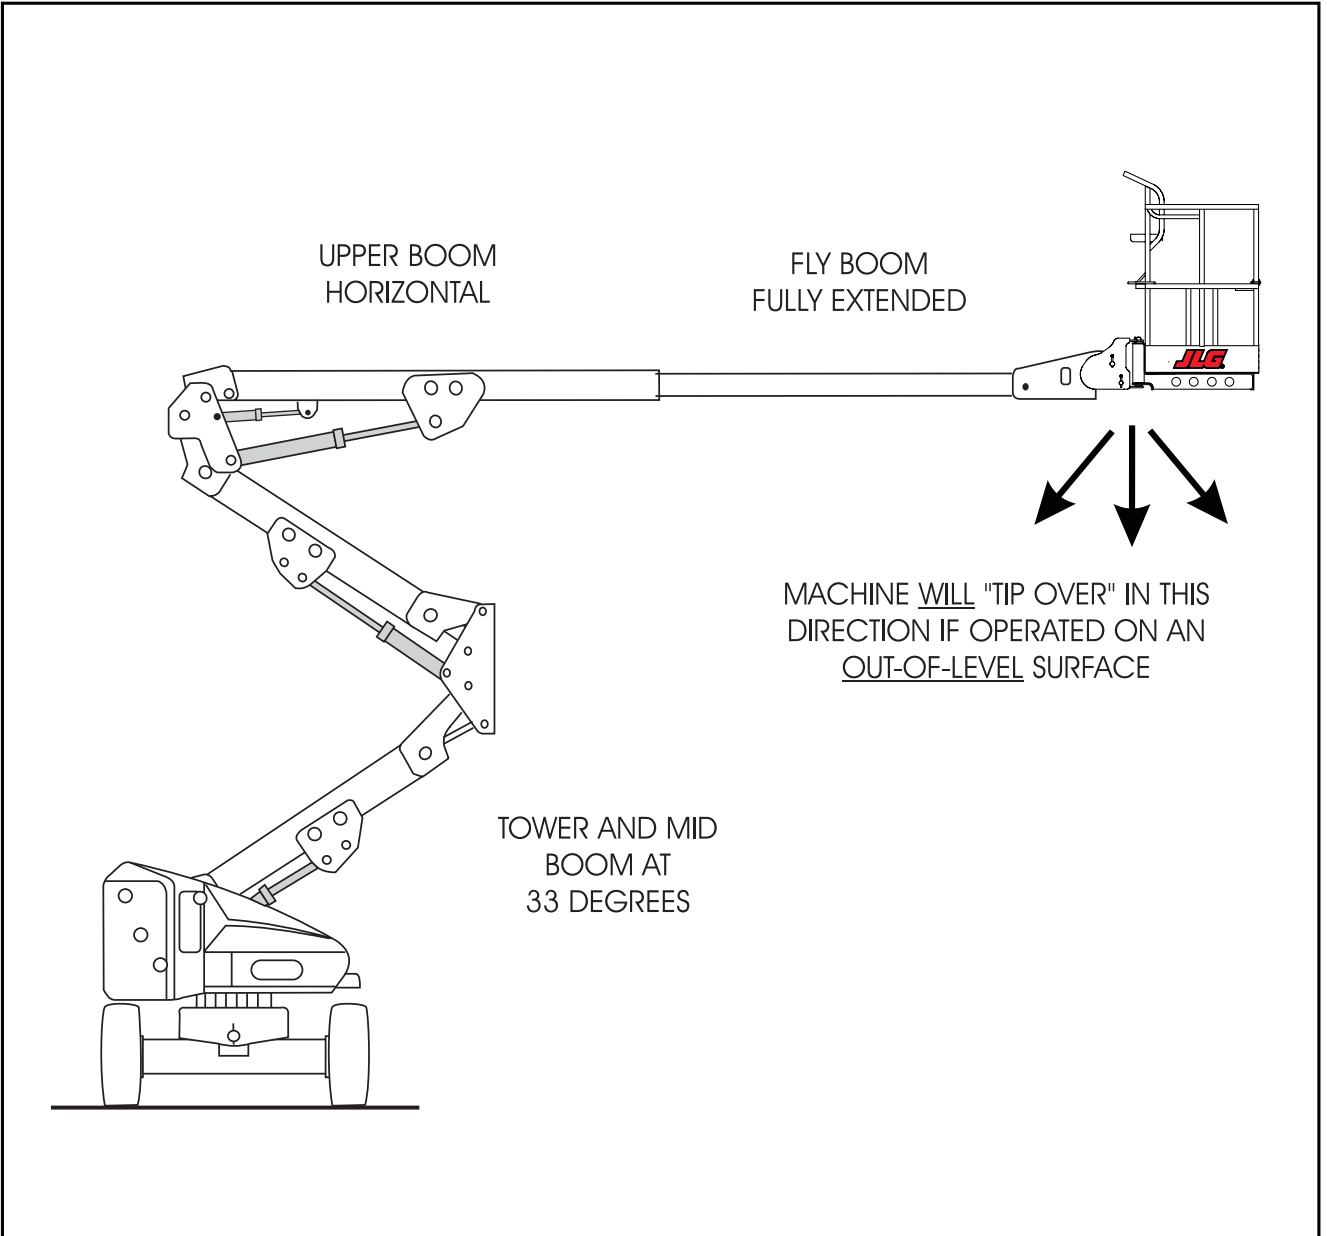
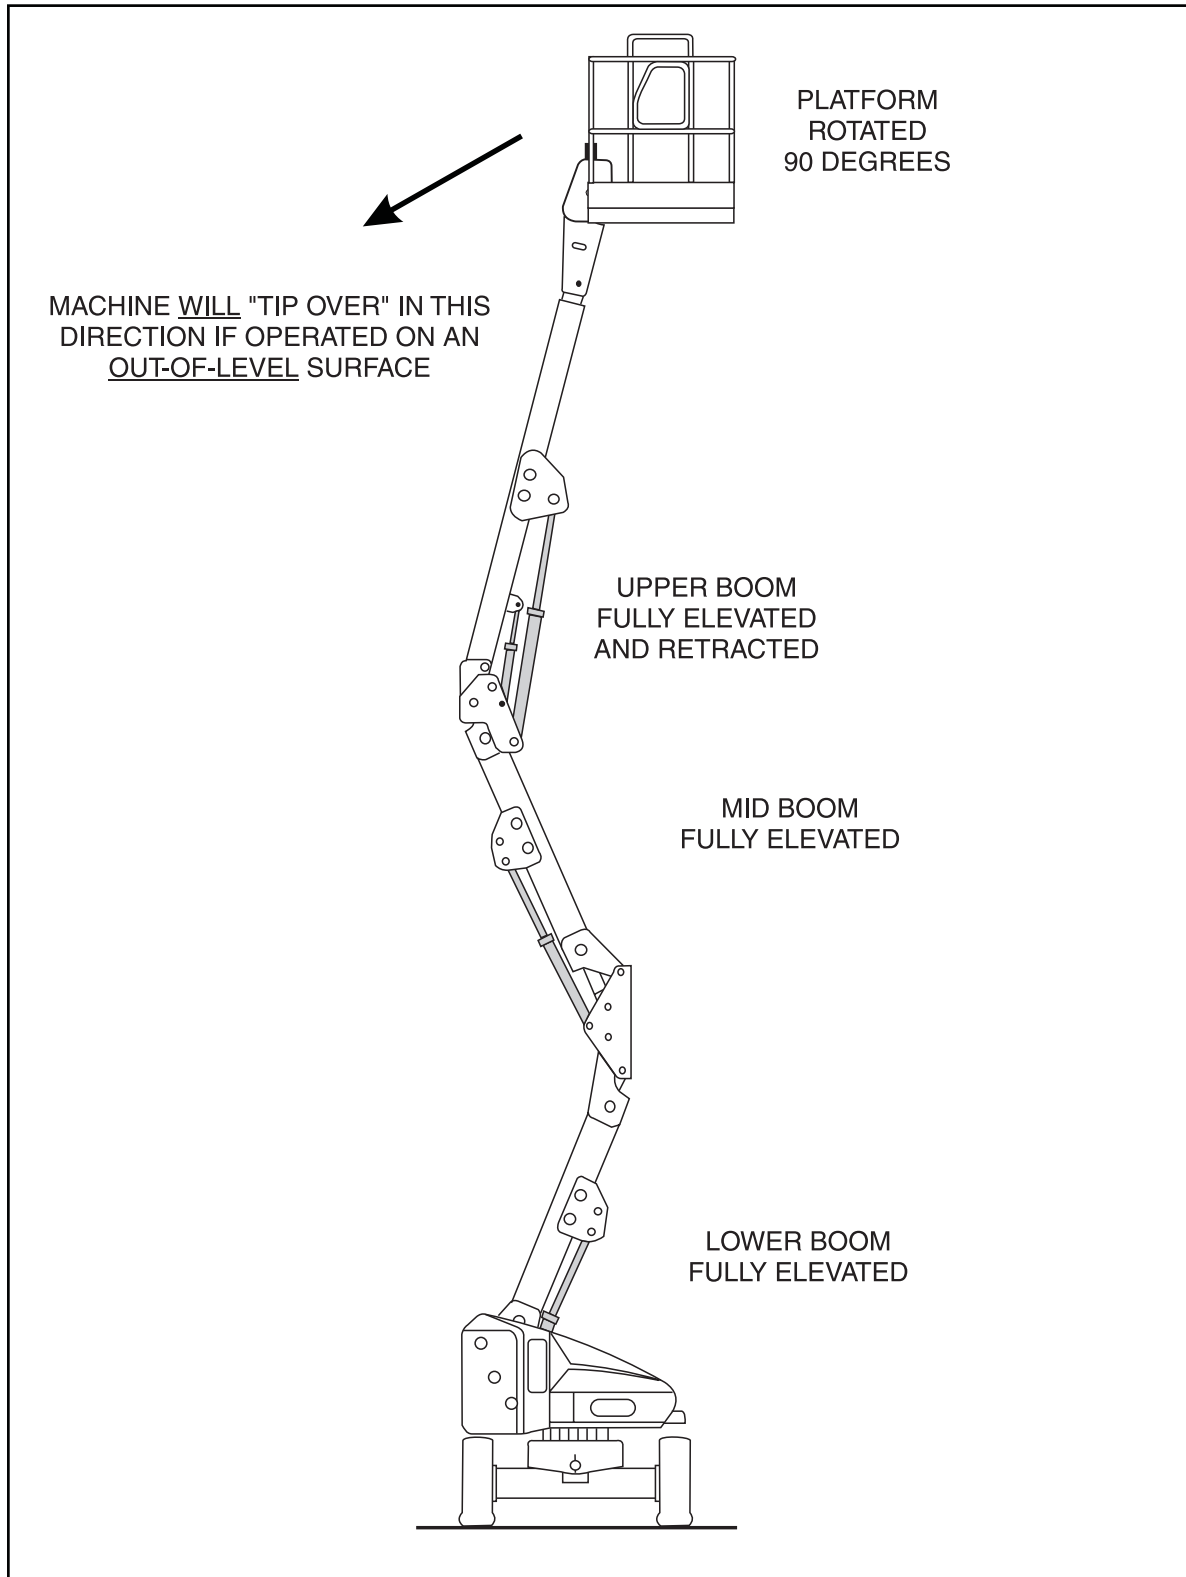

Figure 3-1. Position of Least Forward Stability
Figure 3-2. Position of Least Backward Stability
Machine stability is based on two (2) conditions which are called FORWARD stability and BACKWARD stability. The machine's position of least FORWARD stability is shown in Figure 3-1 and its position of least BACKWARD stability is shown in Figure 3-2.